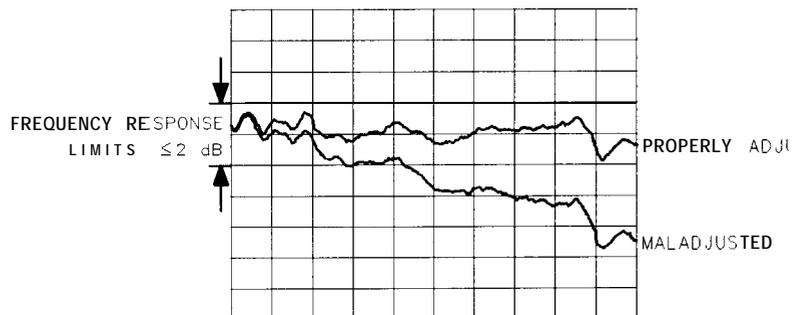

Figure 3-82. Slope Compensation Adjustment Waveforms
- See Figure 3-82 for examples of typical displays of frequency response correctly and incorrectly adjusted.